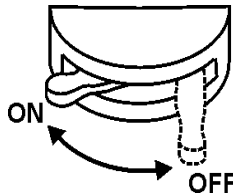

Figure 24. Battery ON/OFF Switch
6. Set the battery ON/OFF switch (Figure 24) to the ON position.
19. After the engine has been running for a few minutes, look at the status LED'S on the "MPEC" display (Figure 24) and check it for any abnormal conditions. If any abnormal conditions exist, shut down the engine and take corrective action to solve the problem.